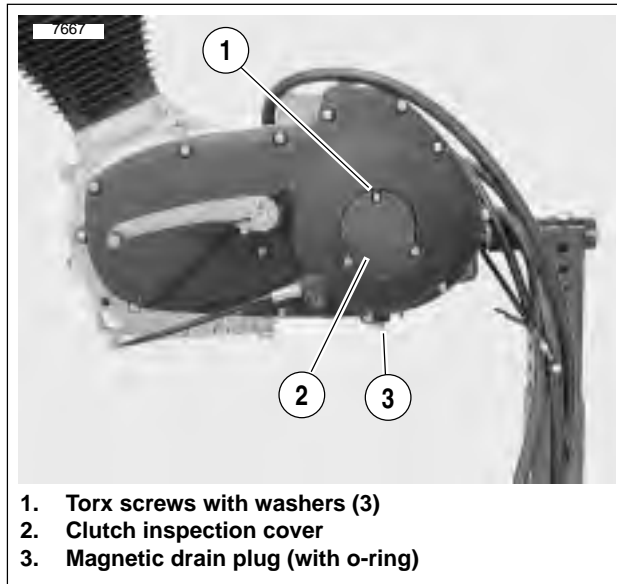

Figure 1-15. Primary Cover
4. See Figure 1-15. Remove three TORX screws with washers (1) from clutch inspection cover (2). Remove clutch inspection cover from primary cover.
6. See Figure 1-15. Install clutch inspection cover using three TORX screws with washers. Tighten in a crosswise pattern to 84-108 **in-lbs** (9.5-12.2 Nm).
2. See Figure 1-15. Position a suitable container under drain plug (3). Remove magnetic drain plug with O-ring and drain fluid.
10. See Figure 1-15. Install clutch inspection cover using three TORX screws with washers. Tighten in a crosswise pattern to 84-108 in-lbs (9.5-12.2 Nm).